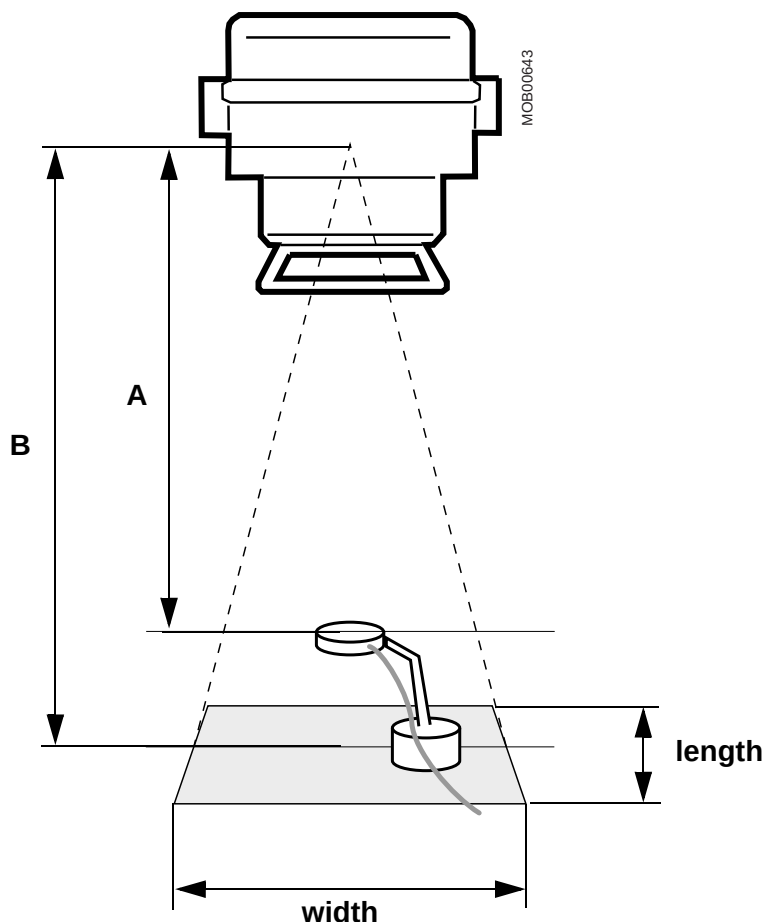

Fig. 2 Setup
- Set up the MOBILETT and the dose meter as shown in Fig. 2.
- Measure the Focus - dose meter distance (**A** / Fig. 2) and then the **width** and the **length** of the light field on the surface. For optimal accuracy, place an unexposed film cassette on the surface, and measure the exposed area width and length on the film after an exposure has been released.
- Measure the Focus - light field/surface distance (**B** / Fig. 2).